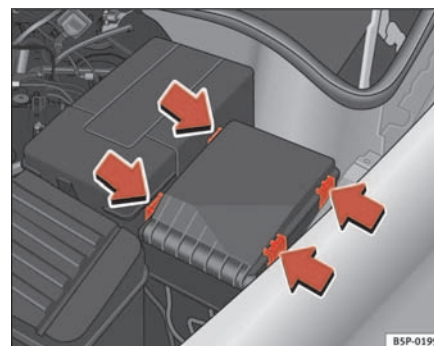

Fig. 172 Fuse box cover in engine compartment
- Prise off the fuse cover in the engine compartment by pressing the tabs towards the centre of the cover ⇒ page 233, fig. 172.